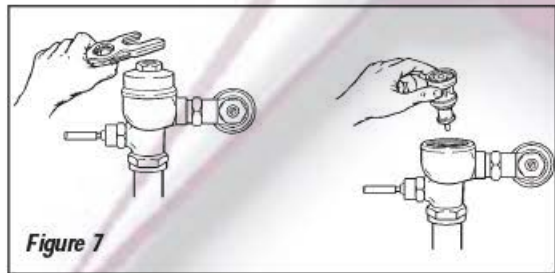

Figure 7
Step 4 - Flush Out Supply Line (Figure 7)